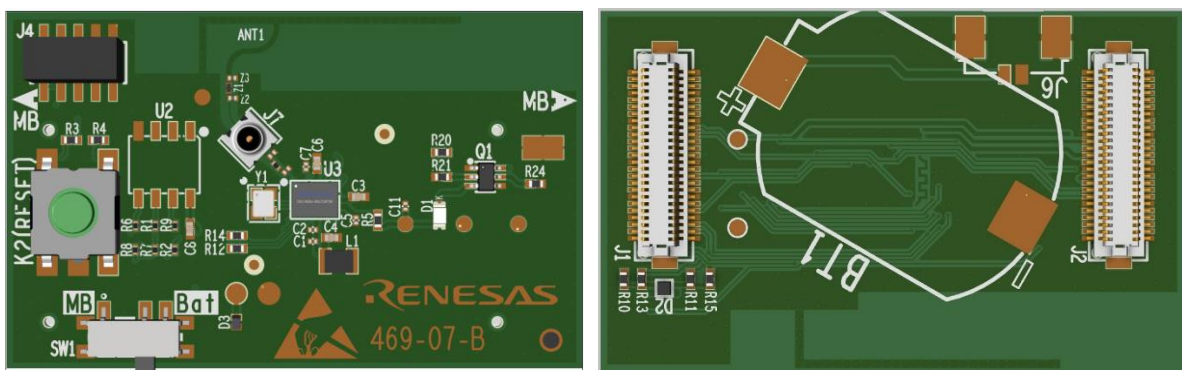

Figure 17. SW1 (left), available battery sockets on the bottom side of the daughterboards (right)
- Supply from LDO on Pro-motherboard by setting SW1 to **MB**, see Figure 17.
- Supply directly from Battery by setting SW1 to **Bat** see Figure 17.
- Place holder for a Coin cell 2016 lithium battery socket (BT1) on the bottom layer of each daughterboard (Figure 17).